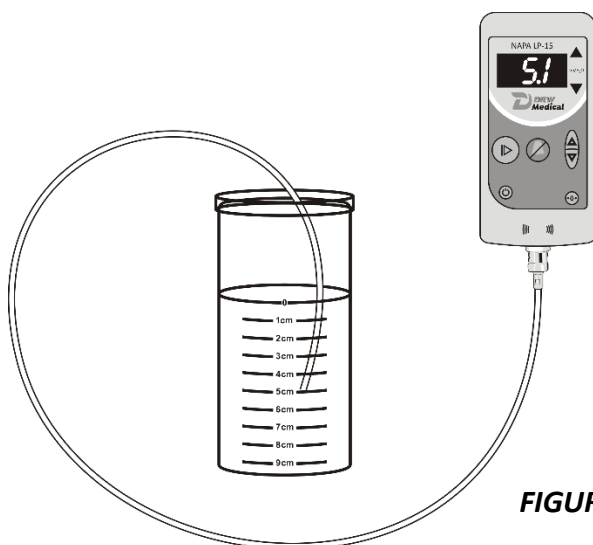

FIGURE 13
8.2 Functional Test (All Users) **FIGURE 13**
The NAPA Airway Pressure Monitor functionality may be verified using the method shown in **Figure 13**. This will confirm mean airway pressure and High and Low alarm settings.